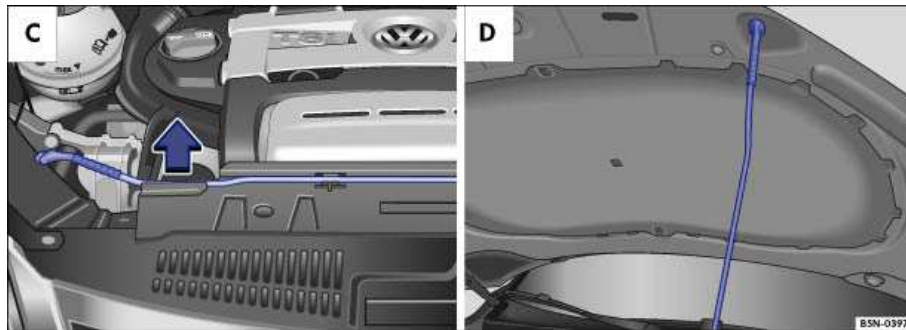

Fig. 168 A: Bracket for hood support in the engine compartment. B: Hood propped open.
- Pull the hood support out of its bracket in the direction of the arrow ⇒ fig. 168 C and insert it into the opening in the hood ⇒ fig. 168 D.
- Take out the hood support and clamp it in place in its bracket ⇒ fig. 168 C.